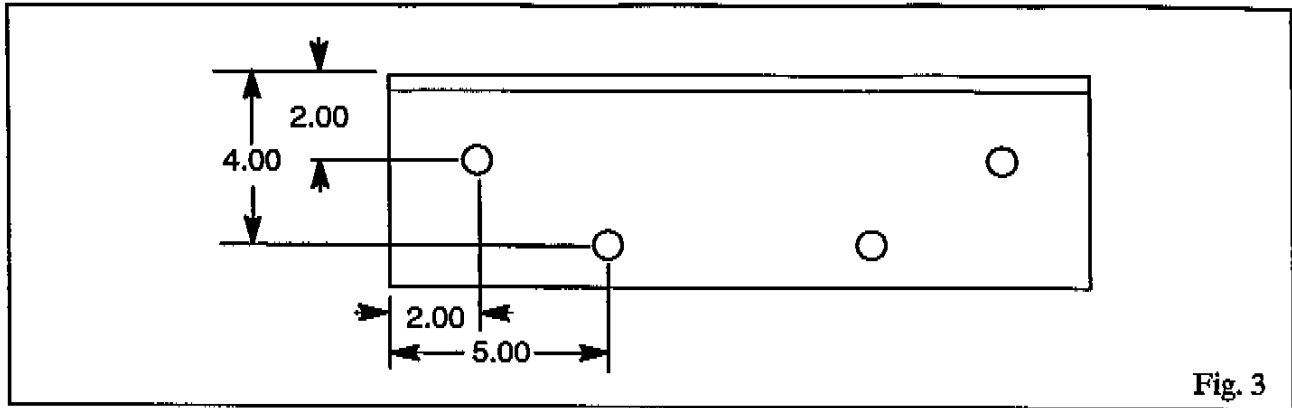

Fig. 3
Bolt the mounting angles to the truck frame using the existing holes. The mounting angles must be attached to the truck frame with a minimum of four (4) 5/8" grade 8 cap screws. If the existing holes are not evenly spread over the whole length, additional holes spaced approximately should be drilled as shown in Figure 3.